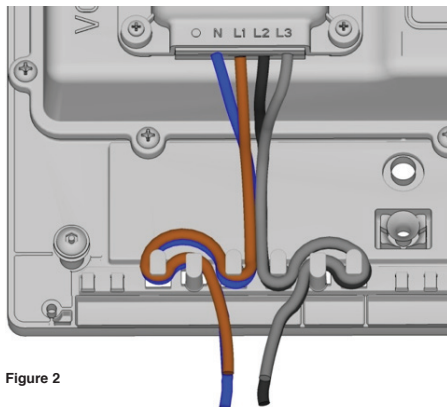

Figure 2
2. Survey lead length required for voltage leads and sensors. Aim to use shortest leads possible, bear in mind restraint length (see Figure 2).